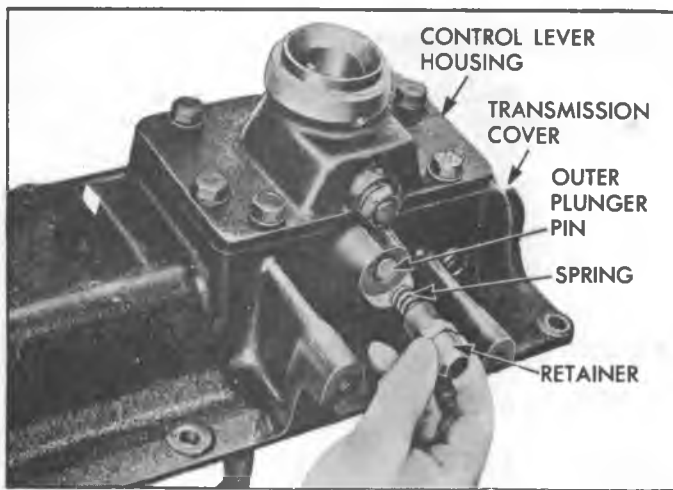

Fig. 6R--Removing Plunger Retainer
- Remove plunger retainer (fig. 6R) and spring from transmission cover, then tilt cover so outer plunger pin will come out of cover.
12. Insert outer plunger pin in cover and install spring and retainer as shown in Figure 6R.